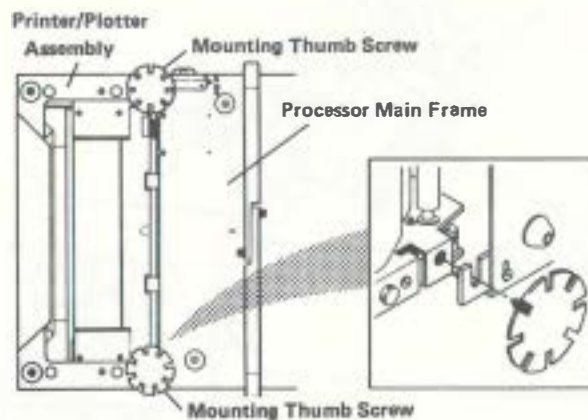

Figure 5-16. Printer/Plotter Thumbwheel Mounting Screws
7. Remove the two printer/plotter thumbwheel mounting screws located on the underside of the unit. See Figure 5-16.
8. Replace the two thumbwheel mounting screws that secure the printer/plotter to the processor unit. See Figure 5-16.